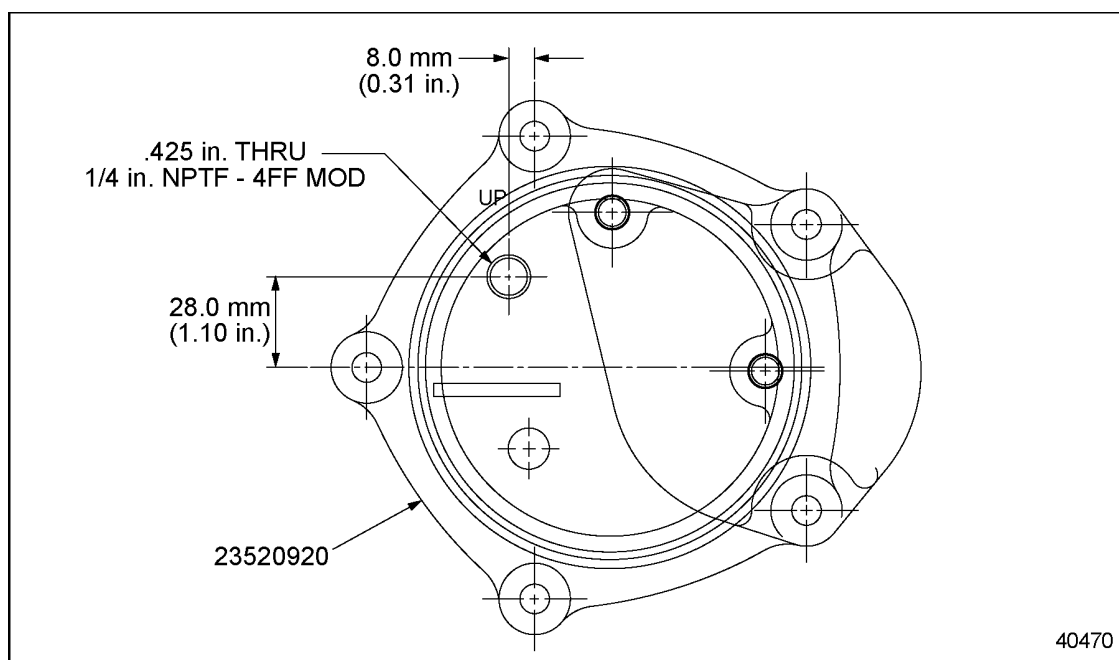

Figure 8-9 **Location of Drilled and Tapped Vent Line Hole in Auto Tensioner Mounting Plate**
7. Drill a 0.425 in. diameter hole on the left side of the mounting plate and thread with a 1/4 in. NPTF - 4FF tap. See Figure 8-9 for hole location.